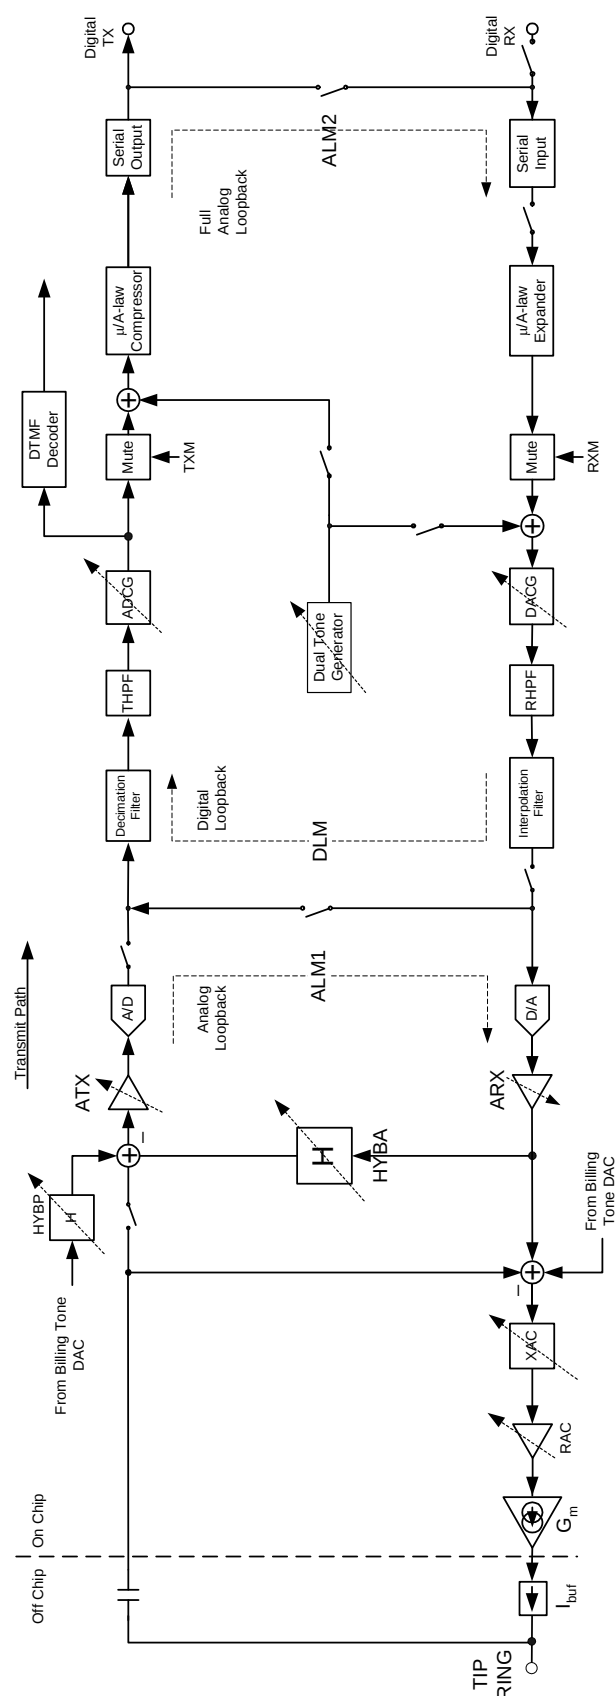

Figure 25. AC Signal Path Block Diagram
Unlike traditional SLICs, the codec function is integrated into the ProSLIC. The 16-bit codec offers programmable gain/attenuation blocks and several loopback modes. The signal path block diagram is shown in Figure 25.
The block diagram for the voice-band signal processing paths is shown in Figure 25. Both the receive and transmit paths employ the optimal combination of analog and digital signal processing to provide maximum performance while offering sufficient flexibility to allow users to optimize for their particular ProSLIC application. All programmable signal-processing blocks are indicated symbolically in Figure 25 by a dashed arrow across them. The two-wire (TIP/RING) voice-band interface to the ProSLIC is implemented using a small number of external components. The receive path interface consists of a unity-gain current buffer, I_{BUF} , while the transmit path interface is simply an ac coupling capacitor. Signal paths, although implemented differentially, are shown as single-ended for simplicity.
The ProSLIC provides programmable transhybrid balance with gain block H. (See Figure 25.) In the ideal case, where the synthesized SLIC impedance exactly matches the subscriber loop impedance, the transhybrid balance should be set to subtract a -6 dB level from the transmit path signal. The transhybrid balance gain can be adjusted from -2.77 dB to $+4.08$ dB around the ideal setting of -6 dB by programming the HYBA[2:0] bits of the Hybrid Control register (direct Register 11). Note that adjusting any of the analog or digital gain blocks will not require any modification of the transhybrid balance gain block, as the transhybrid gain is subtracted from the transmit path signal prior to any gain adjustment stages. If desired, the transhybrid balance can also be disabled using the appropriate register setting.
- The full analog loopback (ALM2) tests almost all the circuitry of both the transmit and receive paths. The compressed 8-bit word transmit data stream is fed back serially to the input of the receive path expander. (See Figure 25.) The signal path starts with the analog signal at the input of the transmit
- An additional analog loopback (ALM1) takes the digital stream at the output of the A/D converter and feeds it back to the D/A converter. (See Figure 25.) The signal path starts with the analog signal at the input of the transmit path and ends with an analog signal at the output of the receive path. This loopback option allows testing of the analog signal processing circuitry of the Si3210 to be carried out completely independently of any activity in the DSP.
- The full digital loopback tests almost all the circuitry of both the transmit and receive paths. The analog signal at the output of the receive path are fed back to the input of the transmit path by way of the hybrid filter path. (See Figure 25.) The signal path starts with 8-bit PCM data input to the receive path and ends with 8-bit PCM data at the output of the transmit path. The user can bypass the companding process and interface directly to the 16-bit data.
Real and complex two-wire impedances are realized by internal feedback of a programmable amplifier (RAC), a switched capacitor network (XAC), and a transconductance amplifier (G_m). (See Figure 25.) RAC creates the real portion, and XAC creates the imaginary portion of G_m 's input. G_m then creates a current that models the desired impedance value to the subscriber loop. The differential ac current is fed to the subscriber loop via the ITIPP and IRINGP pins through an off-chip current buffer, I_{BUF} which is implemented using